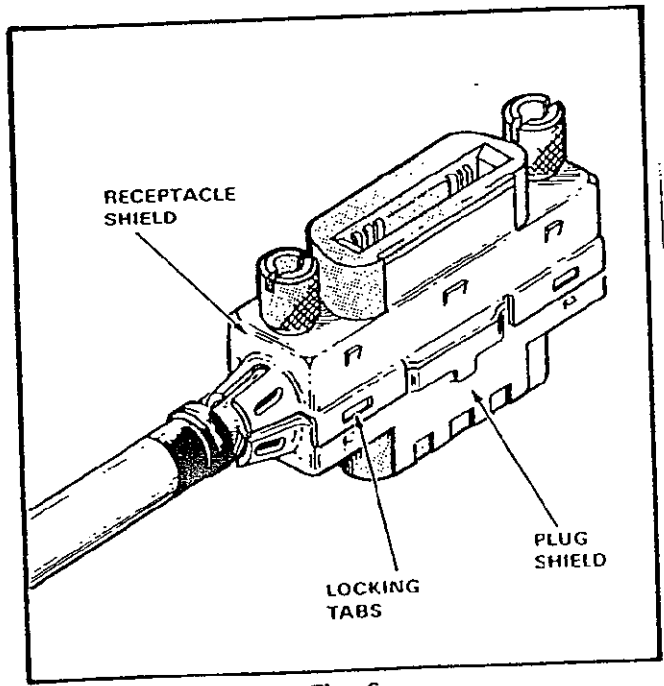

Fig. 6
2. Align receptacle shield over terminated assembly and plug shield. Locate spring fingers at cable exit at braid over inner ferrule. Snap shields together ensuring braid is in contact with spring fingers at cable outlet and no wires are pinched with shields. Locking tabs of plug shield should be visible through windows of receptacle shield. (See Figure 6)